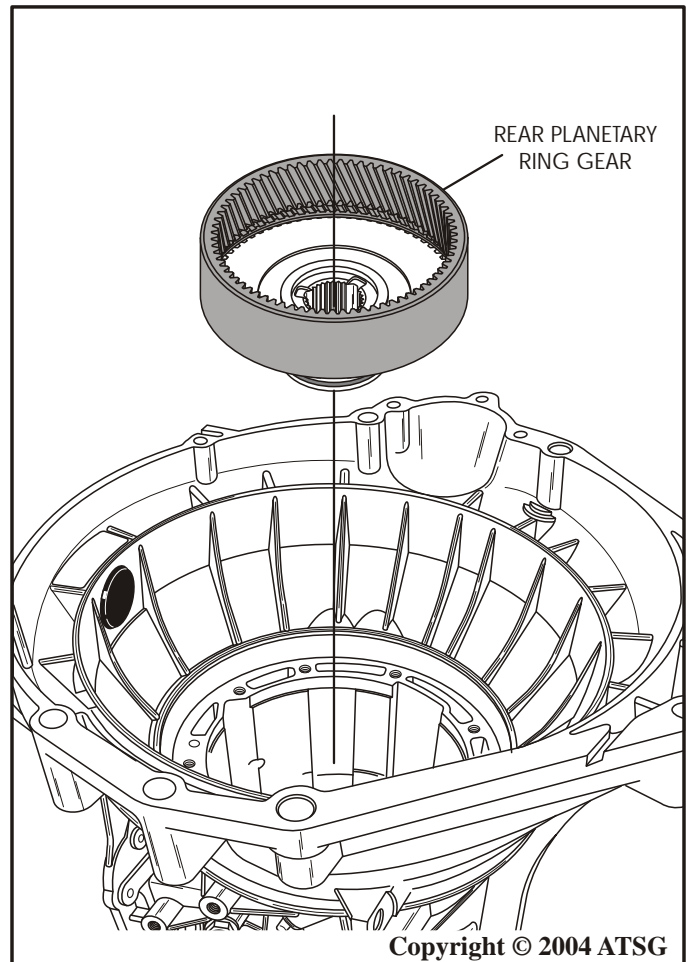

Figure 141
13. Install the pre-assembled rear planetary ring gear that has the seal ring with the notches in it, as shown in Figure 141, and ensure that it is fully seated against bearing.